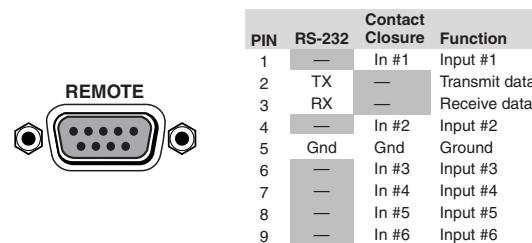

Figure 2-10 — Remote connector pinout
- ⑦ **Remote RS-232/contact closure connector** — Connect a computer or control system to this 9-pin D connector to allow remote control using the Simple Instruction Set™ (SIS™) or the Extron graphical control program for Windows (see figure 2-10). See chapter 4, *Remote Control*, for details.